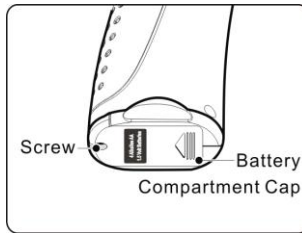

Fig. 4
- 1) Turn the display unit handheld upside down to expose the battery compartment cap and screw. (**Fig. 4**)